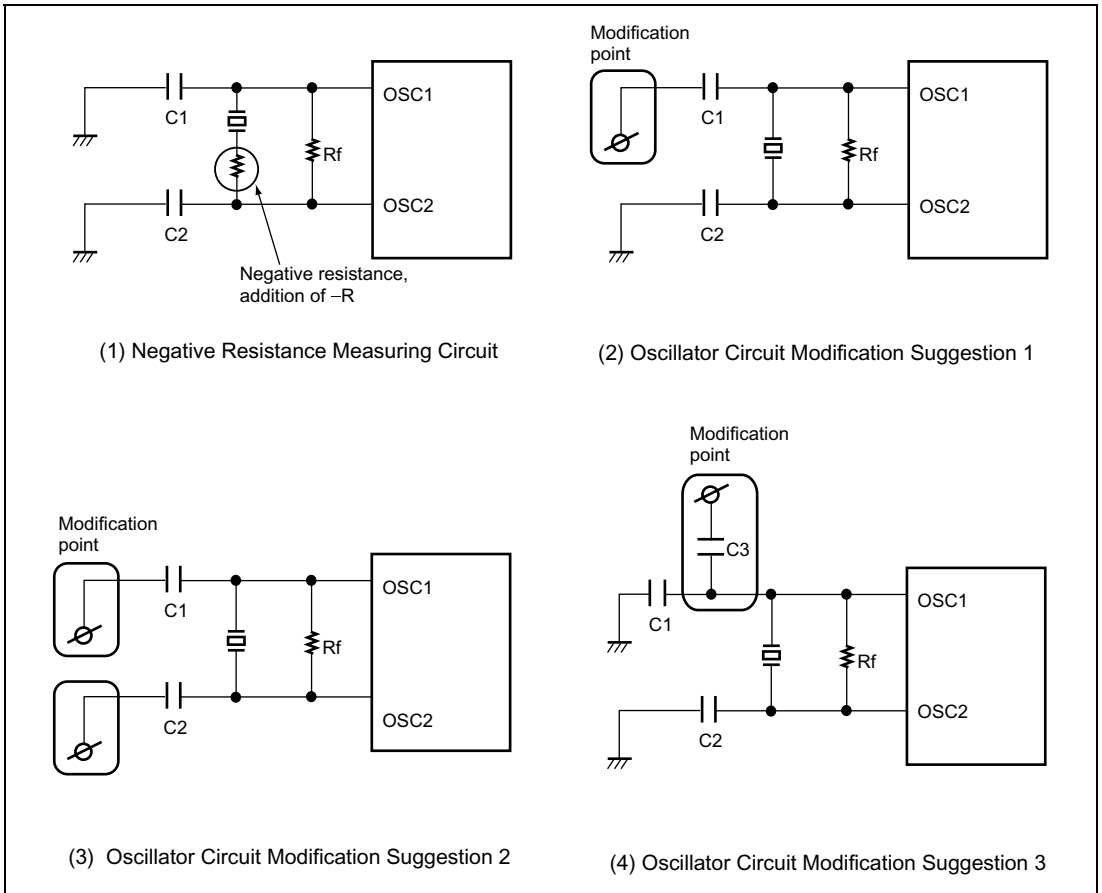

Figure 4.12 Negative Resistance Measurement and Circuit Modification Suggestions
Figure 4.12 (1) shows an example measuring circuit with the negative resistance suggested by the oscillator manufacturer. Note that if the negative resistance of the circuit is less than that suggested by the oscillator manufacturer, it may be difficult to start the main oscillator.
If it is determined that oscillation is not occurring because the negative resistance is lower than the level suggested by the oscillator manufacturer, the circuit may be modified as shown in figure 4.12 (2) through (4). Which of the modification suggestions to use and the capacitor capacitance should be decided based upon an evaluation of factors such as the negative resistance and the frequency deviation.